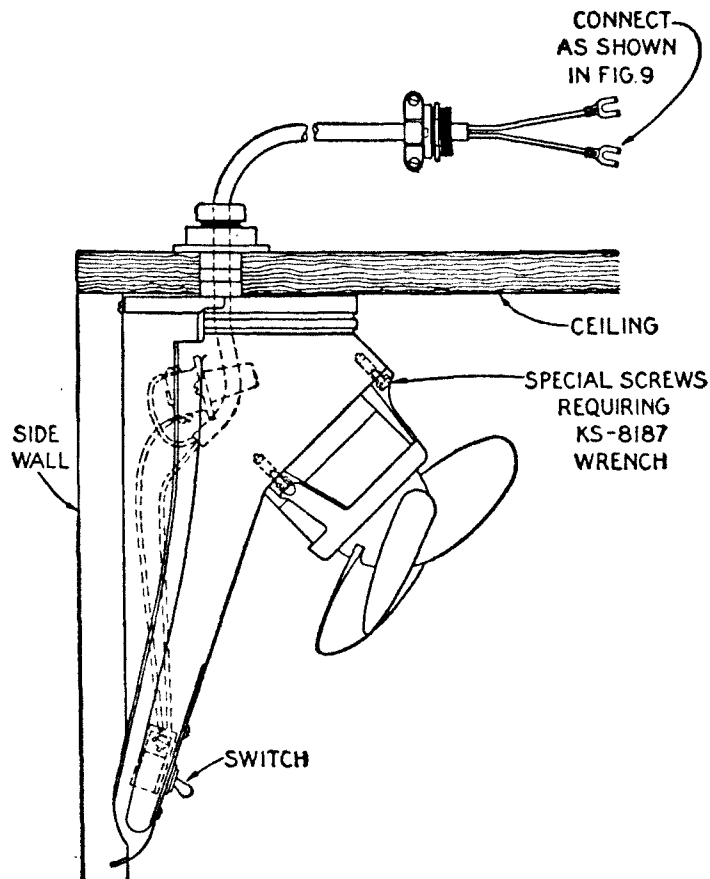

Fig. 14—KS-8164 Ventilator
11.06 Install KS-8164 ventilator where provided in 5- and 6-type booths as shown in Fig. 14.
11.07 If practicable, drill ceiling from inside of the booth. Locate 1-inch hole for the KS-8164 ventilator, 2-1/16 inches from rear-inner wall and 2-1/16 inches from side-inner wall as shown in Fig. 14. If the ceiling is metal lined, cut through the metal with a 1-inch hole saw, then drill the wood with a 1-inch auger bit.